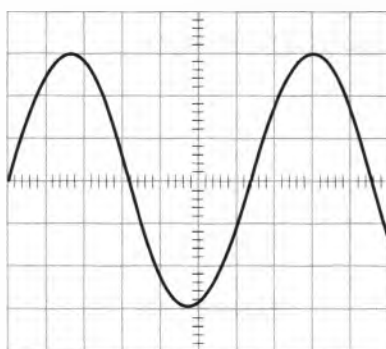

Figure 11
1. What is the period of the sinewave in Figure 11 below if the *Horizontal Sweep* control is set to 0.5μs/division?
1. What is the frequency of the signal in Figure 11?